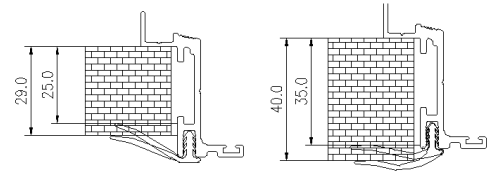

Fig. 11
- 2) When the wall thickness is 25-29mm or 36-40mm, use rubber trim (MD-XJT-004). as in Fig. 11.